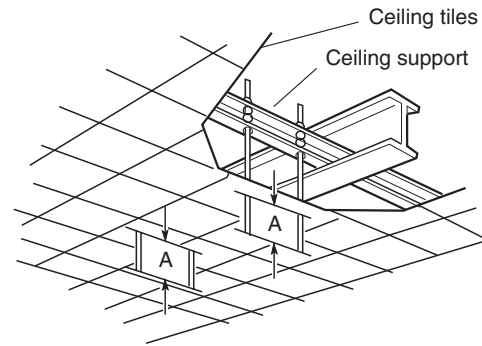
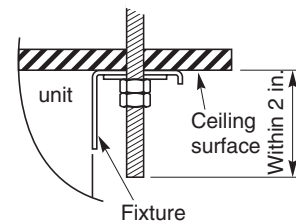

Fig. 1-86
Fig. 1-87
- (b) Use existing ceiling supports or construct a suitable support as shown in Fig. 1-86.
- (4) Screw in the suspension bolts, allowing them to protrude from the ceiling as shown in Fig. 1-86. The distance of each exposed bolt must be of equal length within 2 inches. (Fig. 1-87)